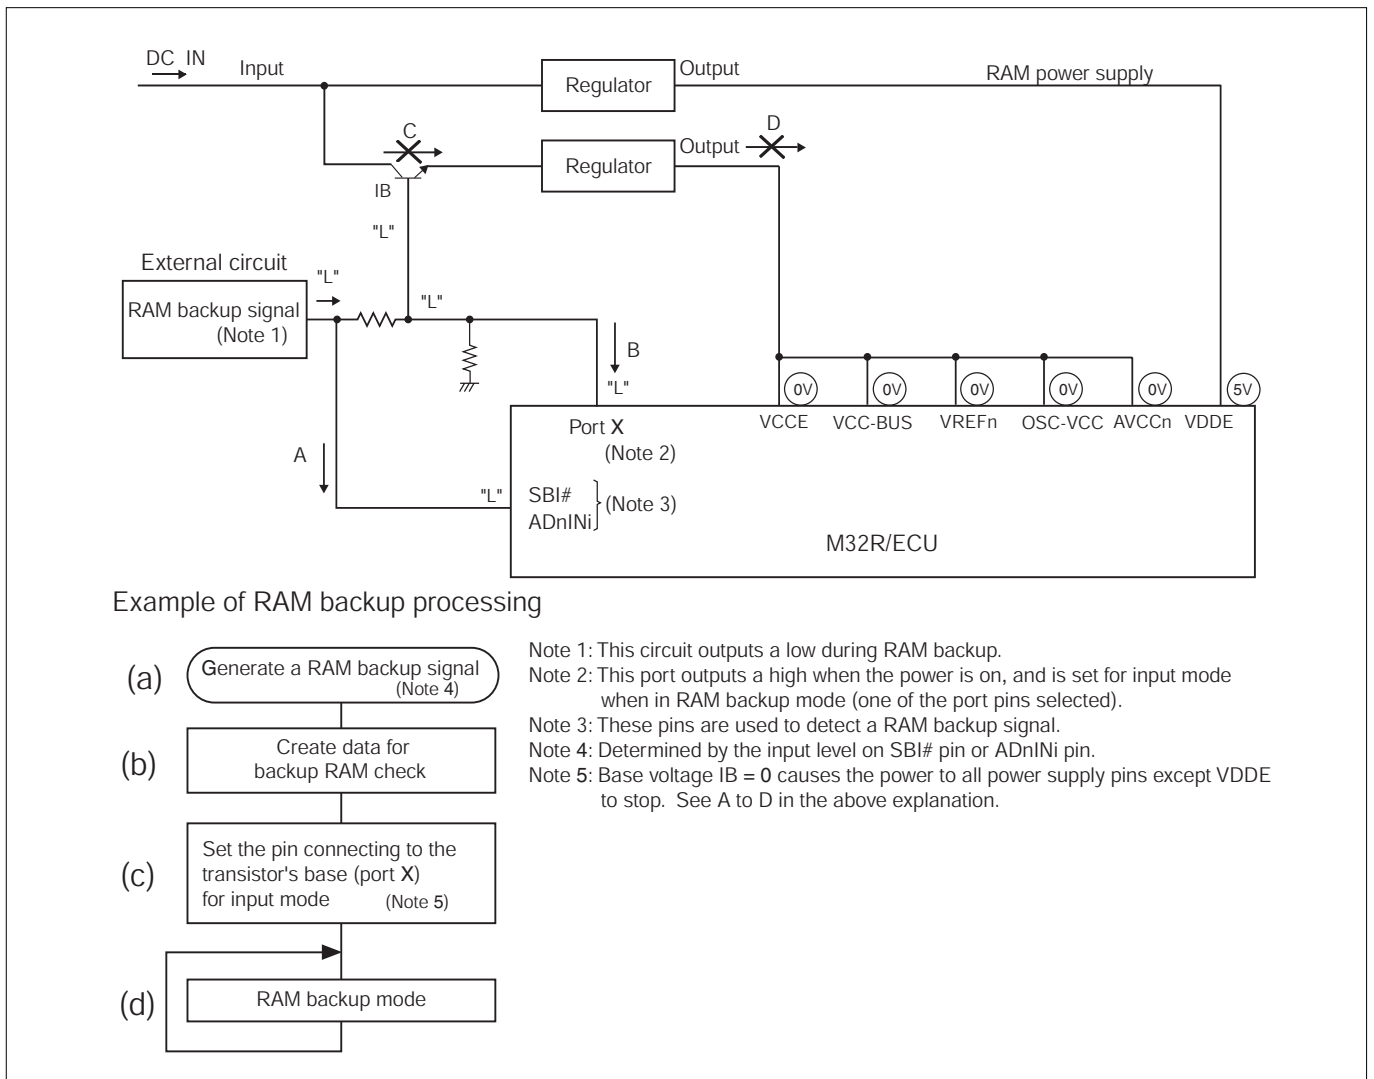
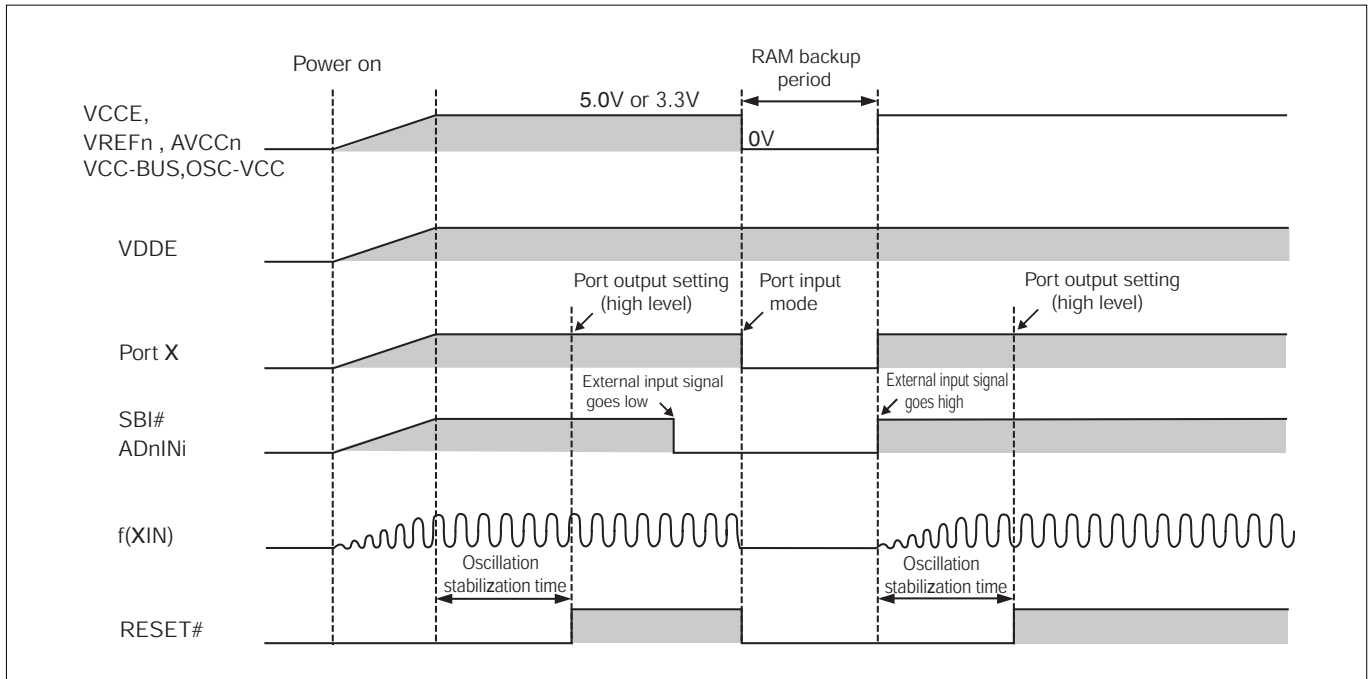

Figure 17.3.3 RAM Backup State for Low Power Operation
Figure 17.3.4 Example of a RAM Backup Sequence for Low Power Operation
Figure 17.3.3 shows the RAM backup state of the M32R/ECU. Figure 17.3.4 shows a RAM backup sequence. When the external circuit outputs a low, input on the SBI# or ADnINi pin is pulled low. A low on these input pins generates a RAM backup signal (A and (a) in Figure 17.3.3). To enable RAM backup mode, make the following settings:
- (1) Create data for RAM check to verify after returning from RAM backup mode to normal mode whether the RAM data has been retained normally ((b) in Figure 17.3.3).
- (2) To materialize low-power operation, set all programmable input/output pins except port X for input mode (or for output mode, with the output level fixed low) ((c) in Figure 17.3.3).
- (3) Set port X for input mode (B and (d) in Figure 17.3.3). This causes the transistor's base voltage, IB, to go low, so that the power to all power supply pins except VDDE is shut off (C and D in Figure 17.3.3).
By settings in (1) to (3), the VDDE pin voltage goes to 3.0–5.5 V and all other pin voltages drop to 0 V, and the M32R/ECU is thereby placed in RAM backup mode ((d) in Figure 17.3.3).